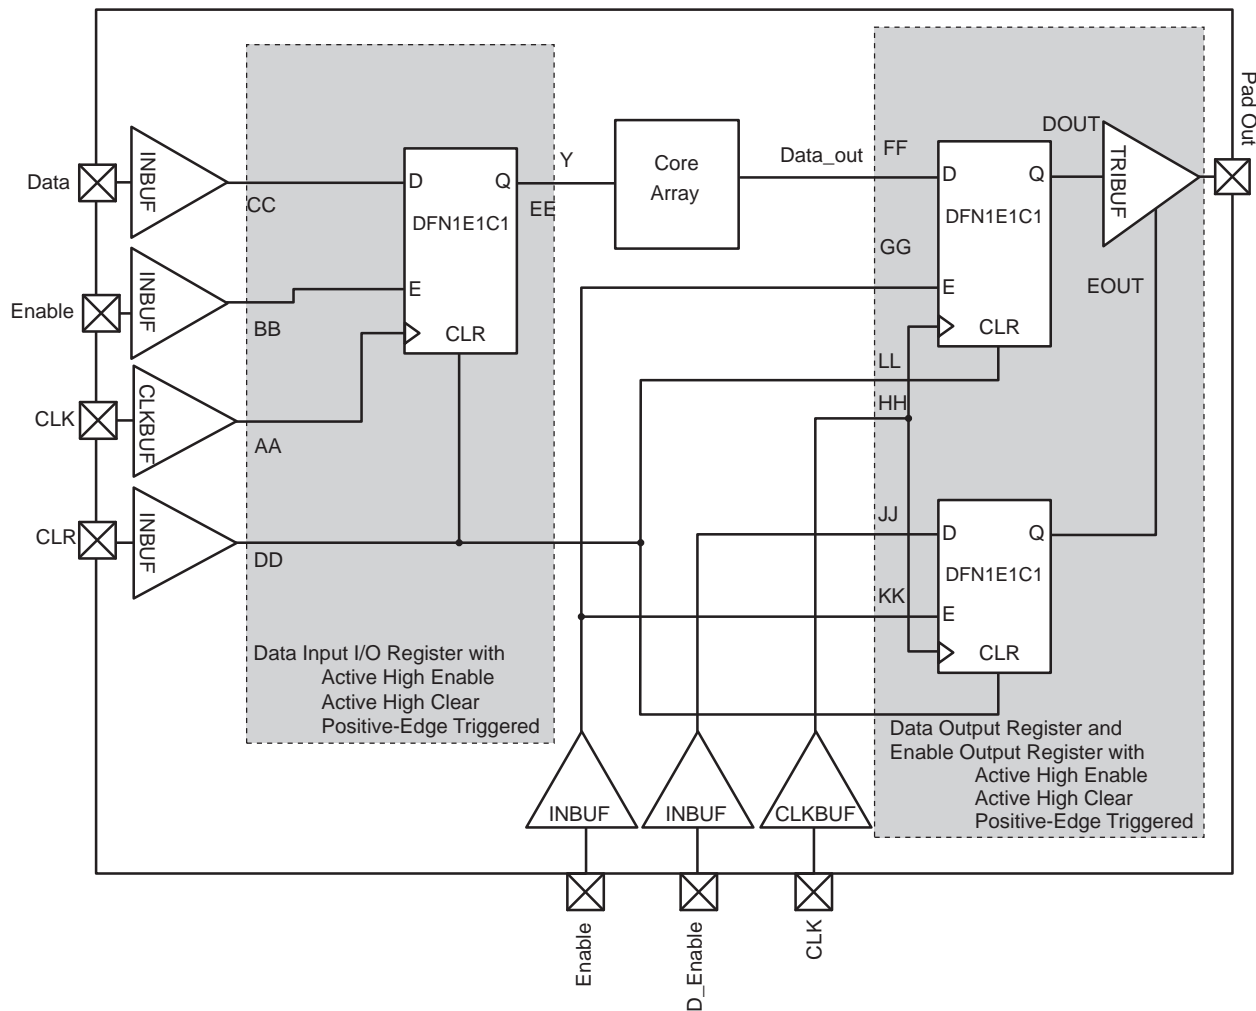

Figure 2-16 • Timing Model of the Registered I/O Buffers with Synchronous Enable and Asynchronous Clear
* See Figure 2-16 on page 2-55 for more information.